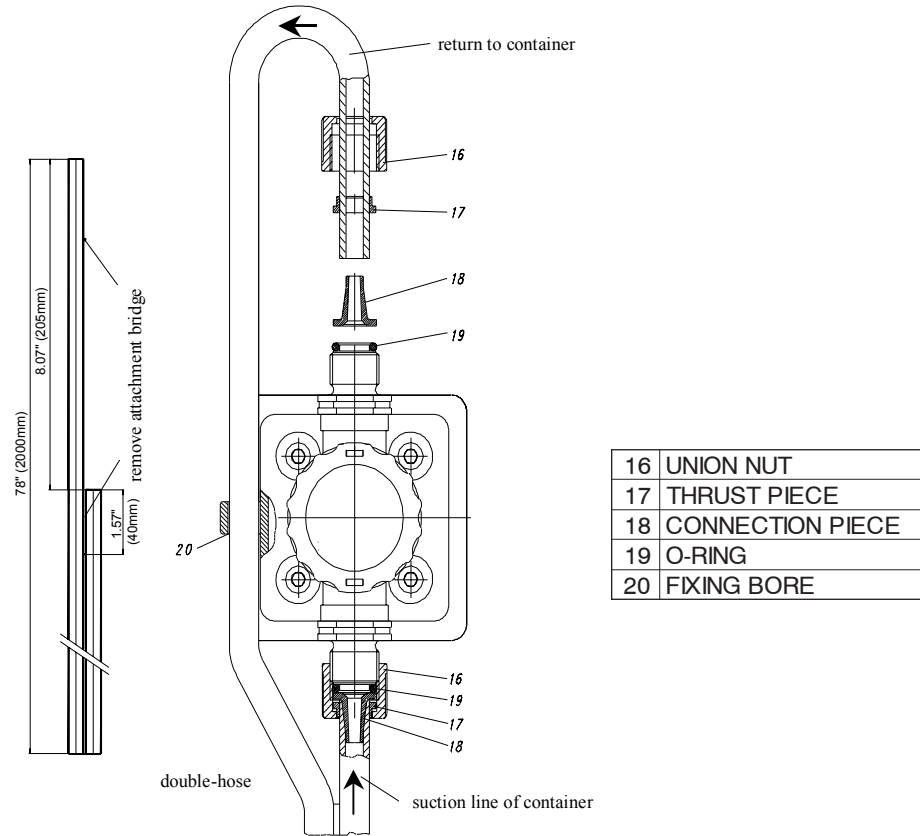

Figure 2.6 - Duo Hose Installations
Separate the Duo hose according to Figure 2.6. Cut it off straight and remove the connecting bridge. Push the union nut (16) and the thrust piece (17) over the suction hose and insert the connection piece (18) into the hose all the way against the shoulder. Put the O-ring (19) in the valve groove and tighten union nut by hand. Pull the return hose through the fixing bore (20) at the side of the head. Install the connection pieces the same way as the suction line and connect it to the discharge valve.